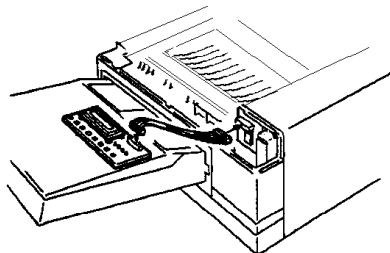

Figure 1. Setup Tool
6. Connect the setup tool connector to the setup PWB connector (CN2) (figure 1).